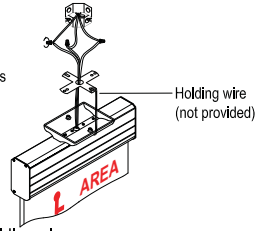

Fig. 4 Using holding wire
Step 6	Feed the leads from the circuit board through the center hole. You may use a holding wire, see Figure 4.